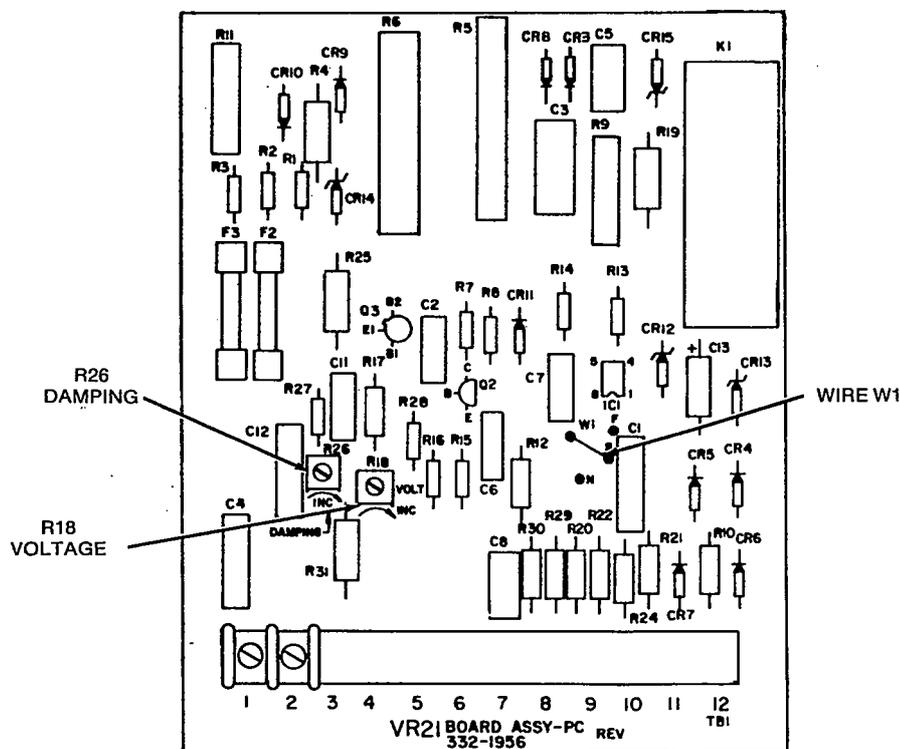

FIGURE 18. VR21 PRINTED CIRCUIT BOARD
Changing Sensitivity Reference: The sensitivity reference can be changed if necessary, by unsoldering W1 on VR21 at "S" (semi-frequency sensitive) and resoldering it to hole "F" (for frequency sensitive) or to hole "N" (for non-frequency sensitive) voltage regulation. See Figure 18.
3. Using a screwdriver, turn R18 potentiometer on printed circuit board VR21 in direction shown to increase or decrease the voltage (See Figure 18). Observe voltmeter on meter panel while making adjustment. Set voltage with no load connected to generator.
If voltage is unstable or tends to hunt, turn R26 potentiometer on VR21 in the direction shown on printed circuit board to increase damping (Figure 18).